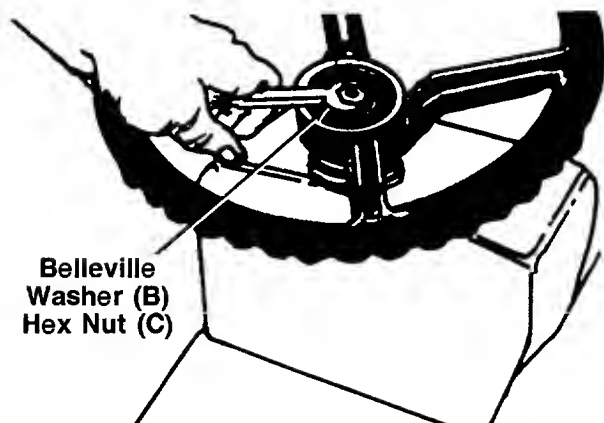

FIGURE 4.
5. Secure with belleville washer (B) (cupped side against the steering wheel) and hex nut (C). See figure 4.
6. Position the steering wheel cap (A) as desired and press it onto the steering wheel by hand.